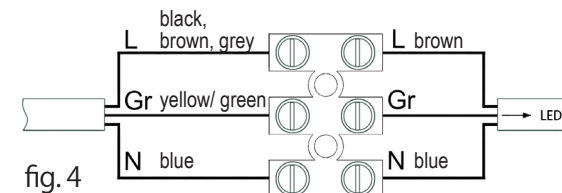

fig. 4
5. Connect the wires according the marks (fig.4). Use a water-protected junction box or a water-protected connection system